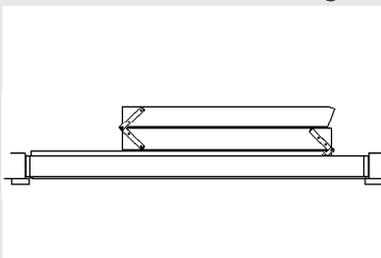

fig 12
2. Lift the stairs through the opening into the attic space. Then lower them down squarely into the opening so the frame of the stair rests on the temporary cleats (figure 12). This is normally best done from below and can be done by one person, but it is very much easier and safer with two people.
12. With all 4 sections of the stair extended, adjust the foot on each side at the bottom of the stair so the rubber foot sits firmly on the floor. Ensure that the joint at each hinge is closed. Tighten the nut on each adjustable foot. (figure 12)